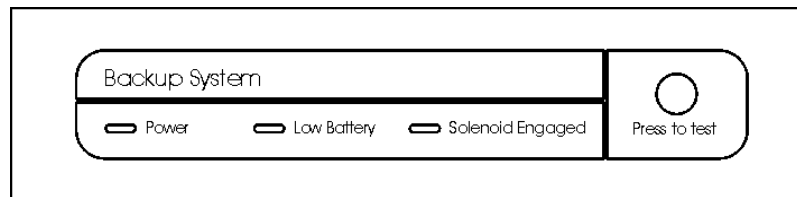

Figure 5-6
d. BUS Control Panel (see figure 5-6)